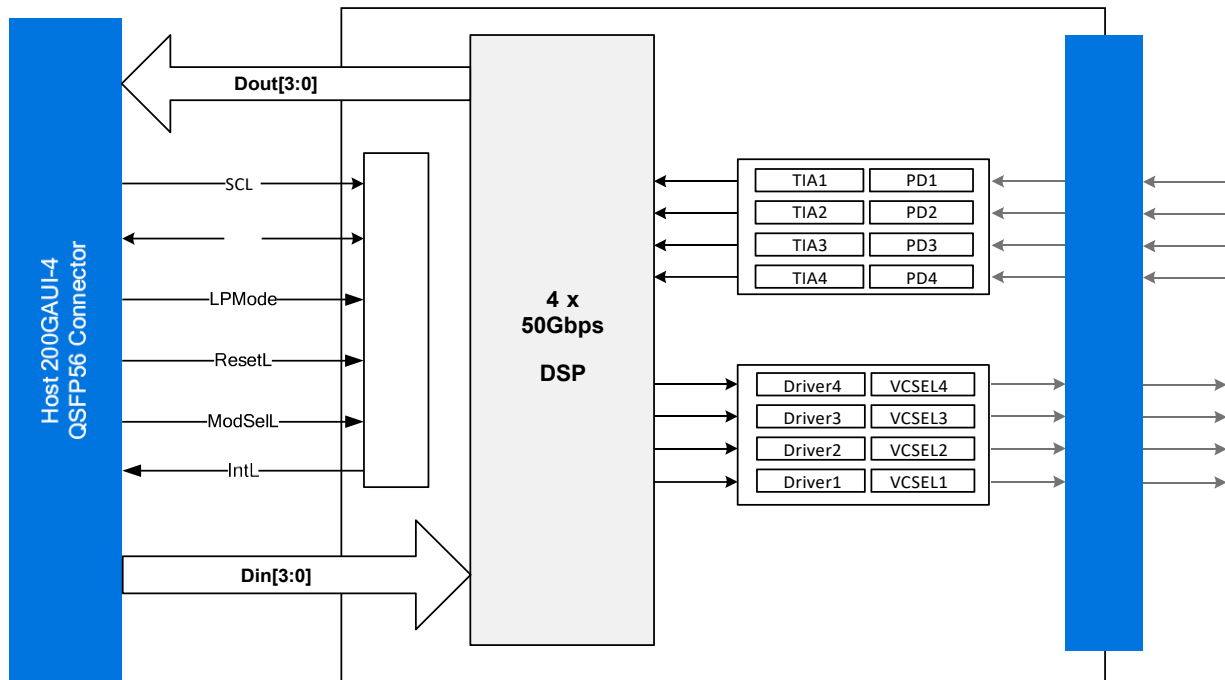

Figure 1: Transceiver Block Diagram
As shown in Figure 1, the transmitter path of the transceiver contains an 4x50Gbps 200GAUI-4 electrical input with equalization (EQ) block, integrated electrical multiplexer, VCSEL laser driver, diagnostic monitors, control and bias for the four modulator and multi-mode laser source. For module control and interrogation, the control interface (LVTTTL compatible) incorporates a Two Wire Serial (TWS) interface of clock and data signals.
As shown in Figure 1, the receiver path of the transceiver contains four PIN photodiodes, trans-impedance amplifiers (TIA), integrated de-multiplexer and 4x50G 200GAUI-4 compliant electrical output blocks.